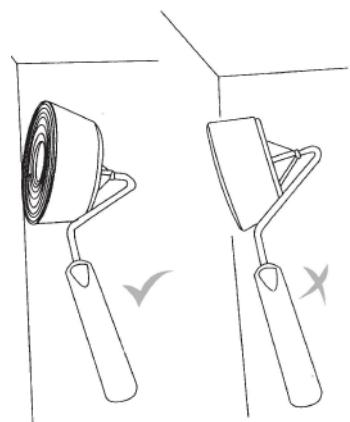

Fig.9
8. When painting,ensure that the Edger head is tilted at an angle form the adjacent wall.The sponge portian should be seated fully on the painted wall(Fig.9).